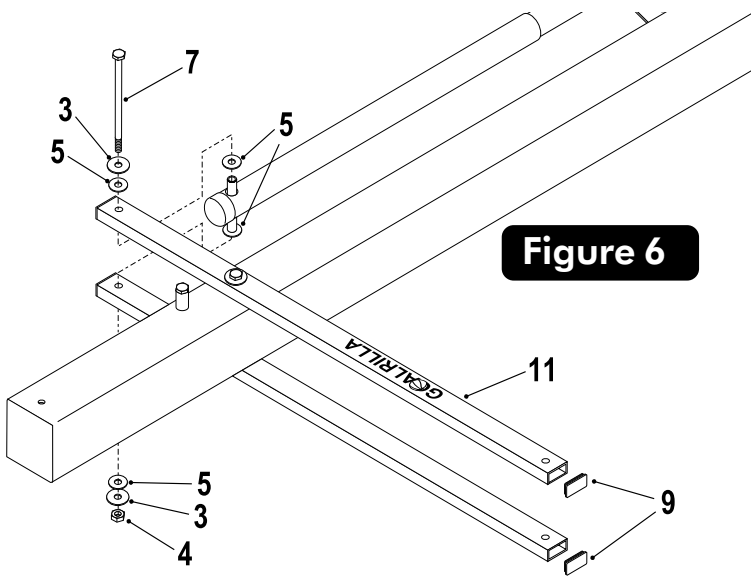

Figure 6
- Secure Actuator (#16) to Lower Arms (#11) using one bolt (#7), two flatwashers (#3), four plastic washers (#5) and one hex nut (#4). See Figure 6. Tighten both bolts (#7) securing Lower Arm (#11).